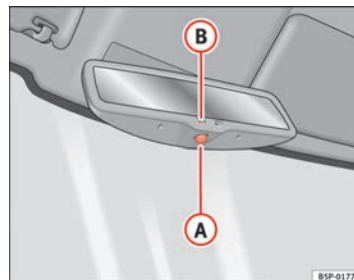

Fig. 65 Automatic anti-dazzle interior mirror.
- Press button **A** ⇒ fig. 65. Indicator lamp **B** goes off. ►
- Press button **A** ⇒ page 101, fig. 65. The indicator lamp turns on.